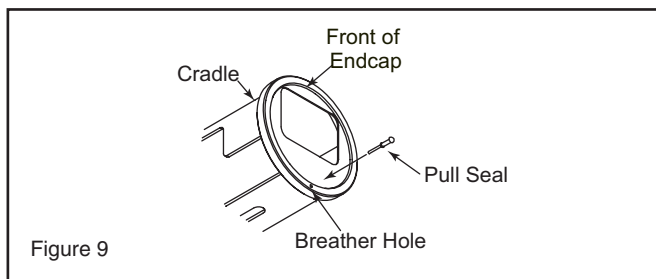

Figure 9
3. Insert the long end of the pull seal into the breather hole starting from the front side of the endcap (Figure 9).